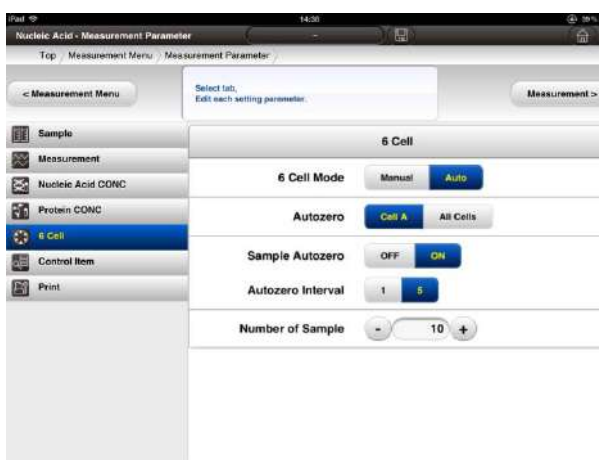

Fig. 4-54 6 Cell Window
- (1) Press  [6 Cell tab] in order to set the six cell conditions.
- (2) 6 cell conditions window (Fig. 4-54) will be shown.